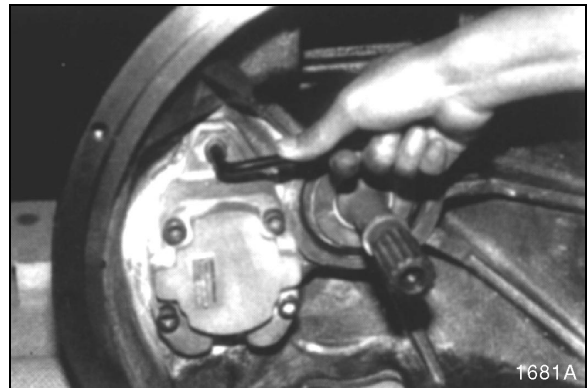

Figure 87
10. Tighten two hex bolts. See Figure 87.